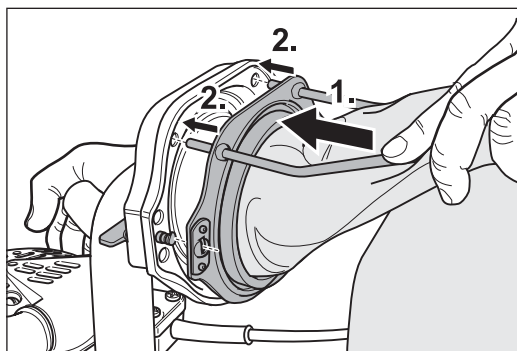

Fig. 3 Push the dust bag over the locating flange (1.) and fix it in place with the two metal studs (2.).
- 5 Push the dust bag opening over the locating flange to the end of the elbow piece (Fig. 3, 1.). Fix the dust bag into place using the two metal studs (Fig. 3, 2.).